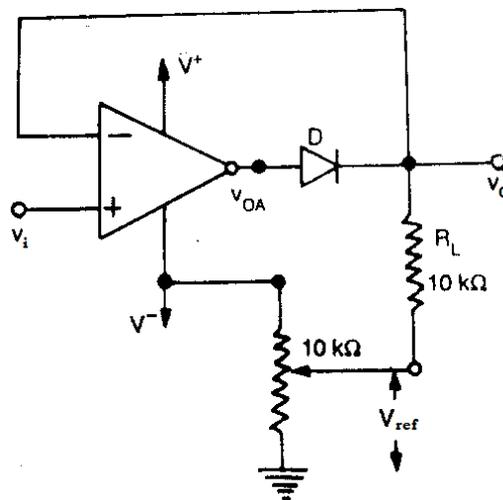

Fig. 3.46 Negative Clipper Circuit
- The positive clipper of Fig. 44 can be easily converted into a negative clipper by reversing diode D and changing the polarity of the V_{ref} , as shown in Fig. 3.46.